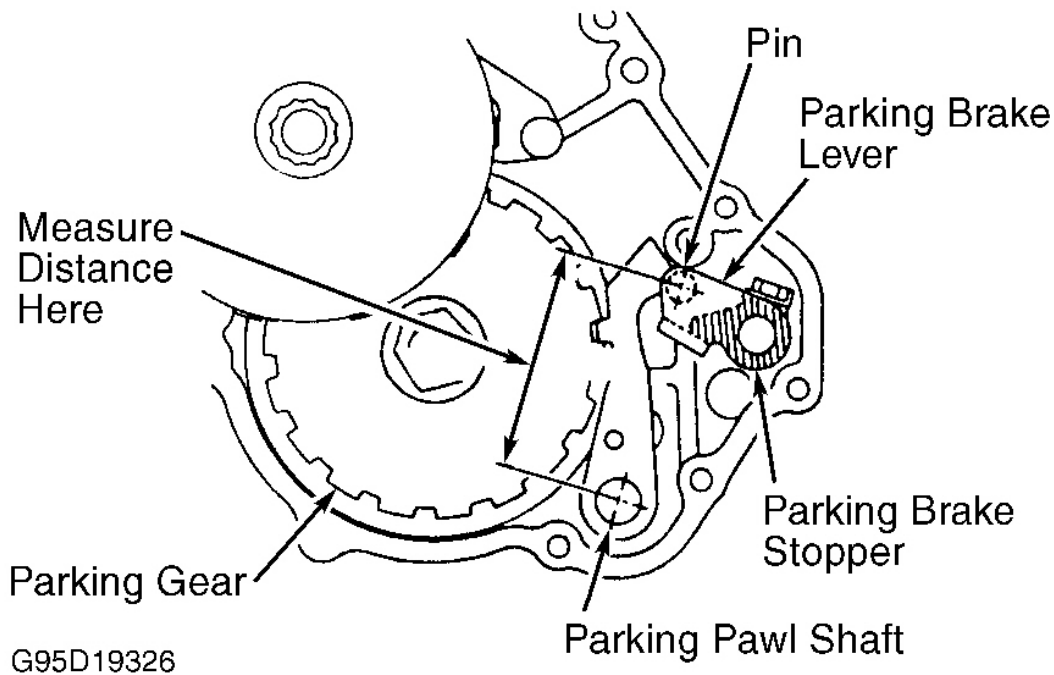

Fig. 30: Measuring Parking Brake Stopper Distance
24. Place parking brake lever in "P" position. Ensure parking pawl engages parking gear. Measure parking brake stop distance between parking pawl shaft and pin on the parking brake lever. See **Fig. 30** .